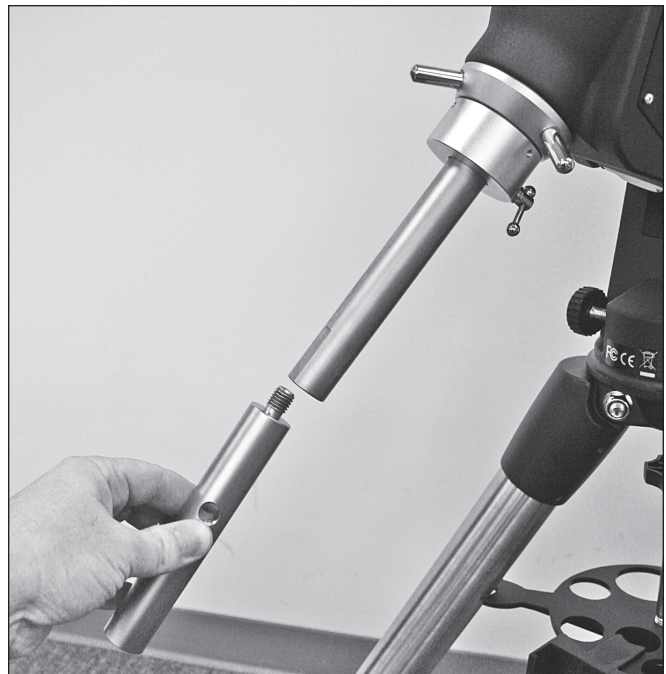

Figure 9. The included 150mm counterweight shaft threads into the bottom of the main shaft.
4. The Atlas Pro mount comes with a 150mm counterweight shaft extension (**Figure 9**), which can be installed at this point if necessary for balancing heavier payloads. Ensure that the extension is tightly secured before installing counterweights.